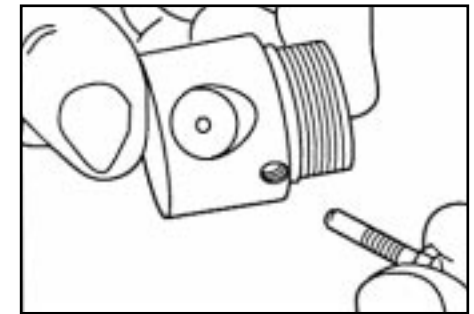

Figure 32
9. Remove the bleeder plug from the fluid cylinder. (Fig.32)